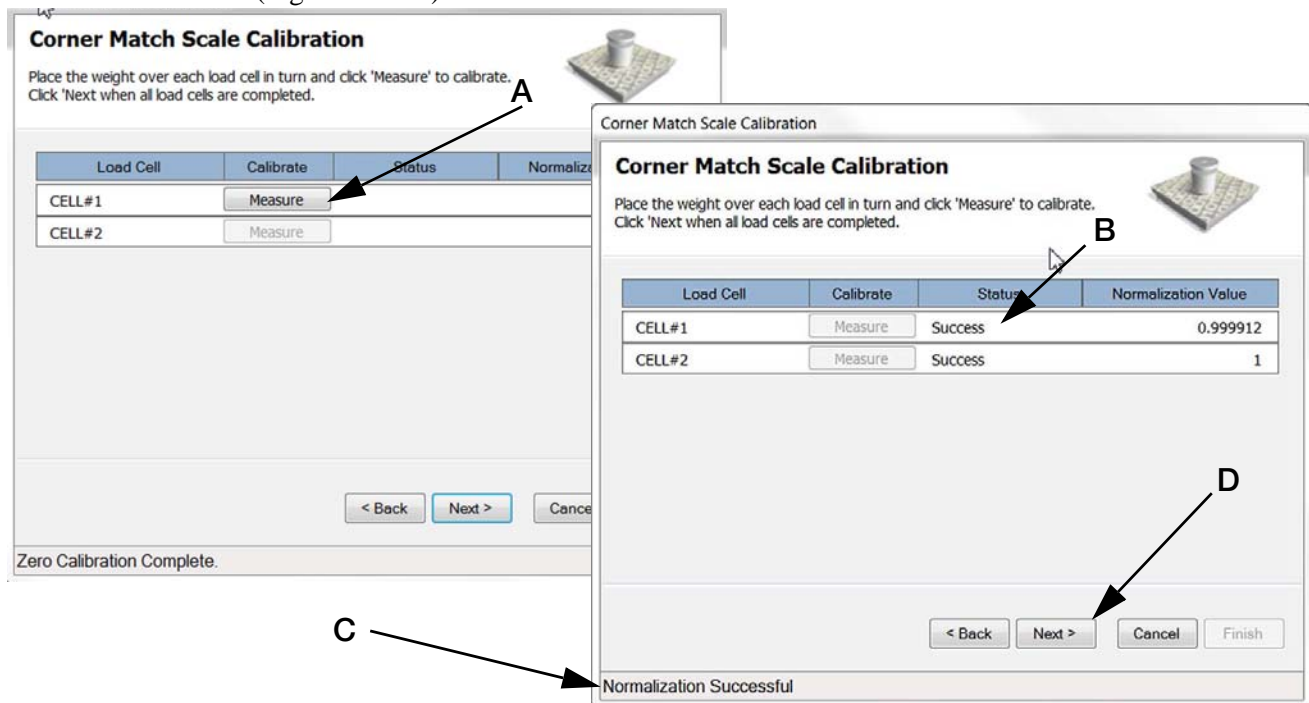

Figure 4-13. Load Cell Calibration
8. Press **Measure** (Figure 4-13 A).
9. Load Cell #1 Status will read **Success** (Figure 4-13 B) and Load Cell #2 **Measure** will become available. Repeat steps 9-11 for Load Cell #2.
10. When both load cells have been calibrated (status reads Success for both Cell #1 & #2, Figure 4-13 B) and the **Normalization Successful** message appears (Figure 4-13 C) press **Next** (Figure 4-13 D).